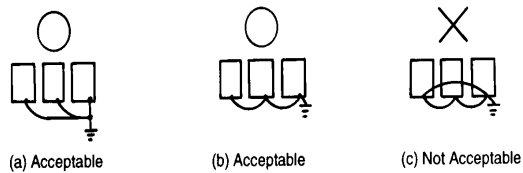

Fig.5 Grounding of Three ERIC-9001 Units
- When using several ERIC-9001 units side by side, ground the units as shown in Fig. 5, (a) or (b). Do not loop the ground wires as shown in (c).